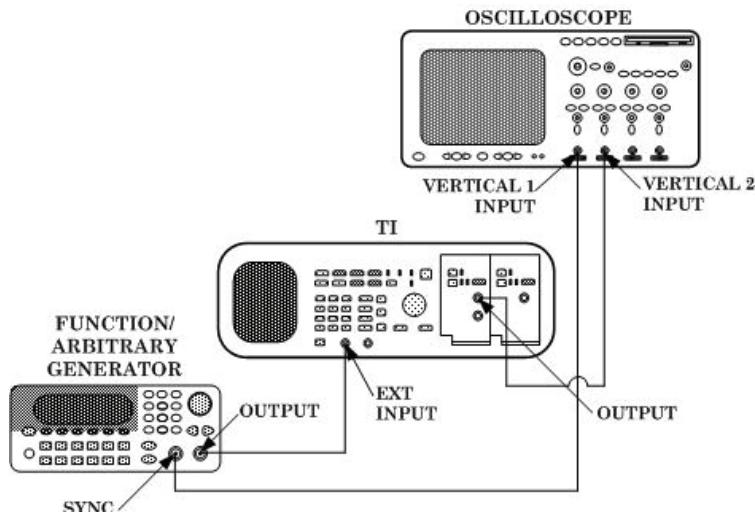

Figure 4. Trigger level and polarity.
(1) Connect equipment as shown in figure 4 below.
- (1) Connect equipment as shown in figure 4.
- (2) Press TI pushbuttons as listed in (a) through (m) below: